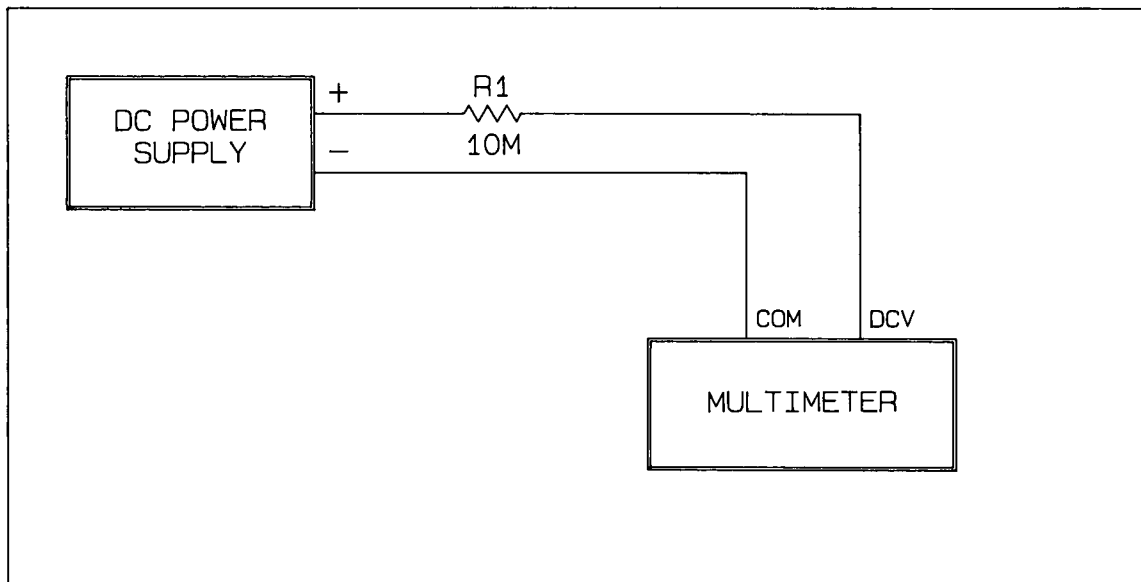

Figure 9-5 DC Isolation Test Set-Up
3. Connect the test equipment as shown in Figure 9-5.